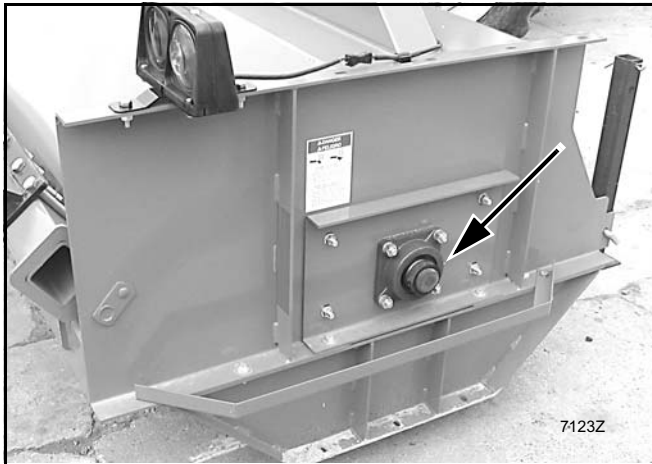

Figure 25. Rotor End Bearing Lubrication Point
2. Lubricate rotor end bearings. See Figure 25.